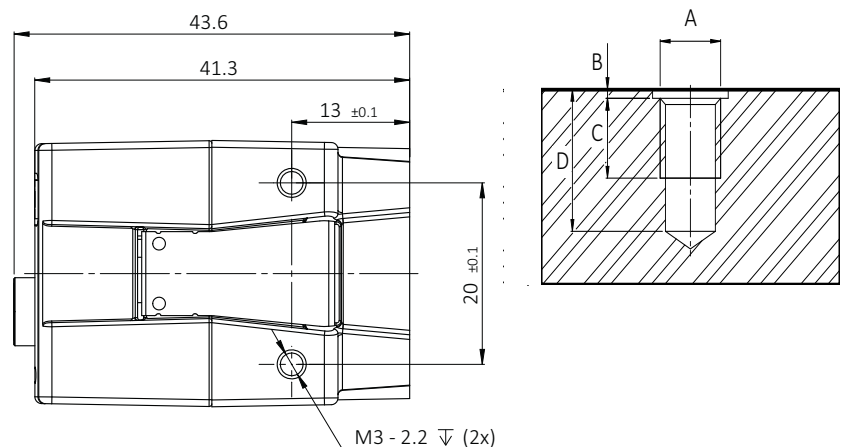

Figure 12: Mounting threads bottom and top (a)
1. As shown in Figure 12, mount the camera to the base using suitable M3 screws for mounting thread a: At 0.51 Nm maximum torque for a thread engagement (C) of 2.2 mm between screws and mounting threads.